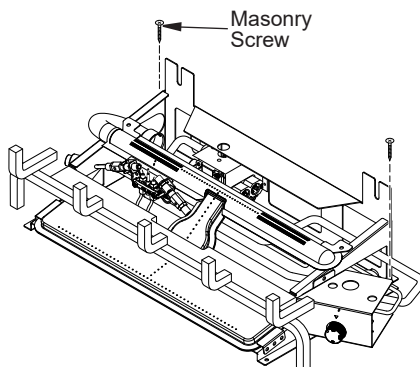

Figure 10 - Attaching Heater Base to Fireplace Floor
2. Mark screw locations through holes in mounting brackets (see Figure 10). If installing in a brick-bottom fireplace, mark screw locations in mortar joint of bricks.